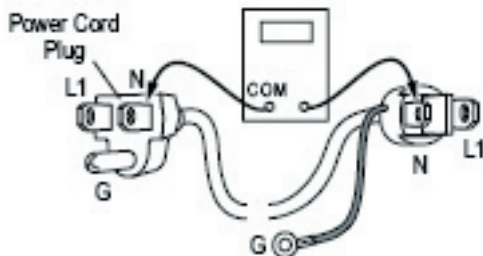

Figure 6. Power cord terminals, gas dryer.
5. With an ohmmeter, check for continuity between the neutral (N) terminal of the plug and P8-3 (white wire) on the machine control board. The left-hand side of figure 6 shows the position of the neutral terminal (N) on the power cord plug. Also see Figure 17.
- If there is no continuity, disconnect the white wire of the harness from the power cord at the location illustrated in Figure 5. Test the continuity of the power cord neutral wire as illustrated in Figure 6. If an open circuit is found, replace the power cord. Otherwise, go to step 6.
- If there is no continuity, check the continuity of the power cord in a similar way to that illustrated in Figure 6, but for power cord's L1 wire.